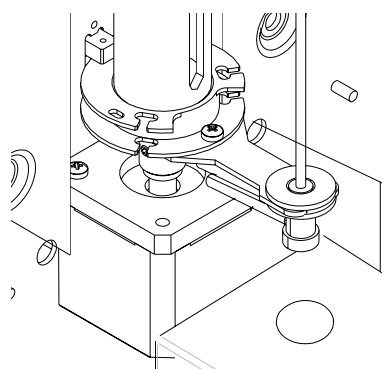

Figure 8-35 Inserting sample probe into wipe block
8. Insert the probe into the wipe block until it reaches the localizer, as Figure 8-35 shows.